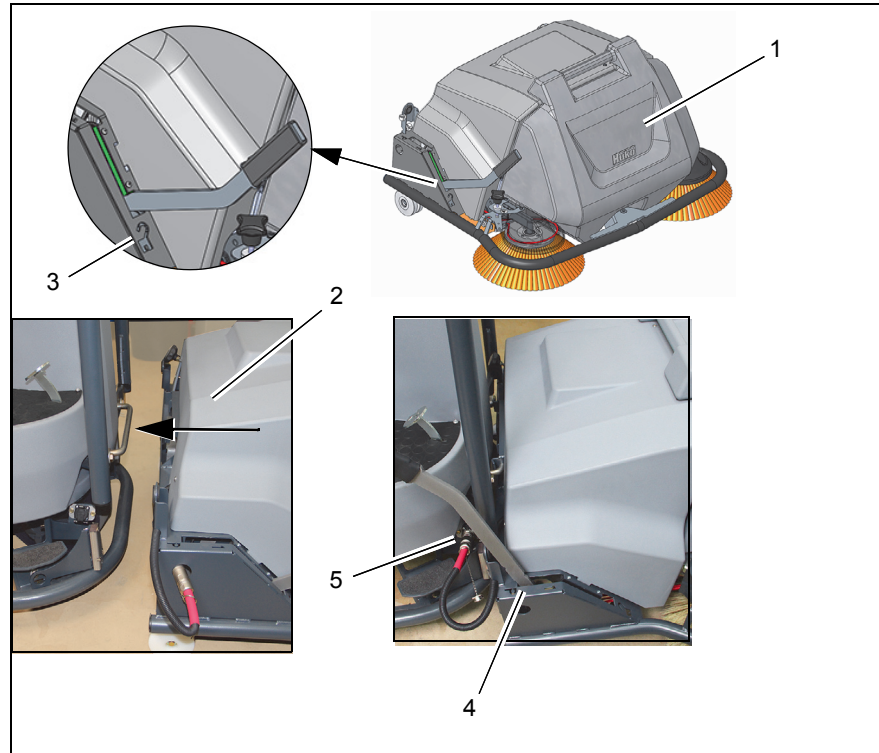

Fig. 2
1x complete pre-sweep suction unit (Fig. 2/1)
1. Slide the pre-sweep suction unit as far as the swivel bracket on the machine in a central position. Lever is in the change position (Fig. 2/3).
2. Move lever in position *P* (Fig. 2/4).
3. Insert the plug into the socket at the front right of the machine and secure with the knurled nut (Fig. 2/5).